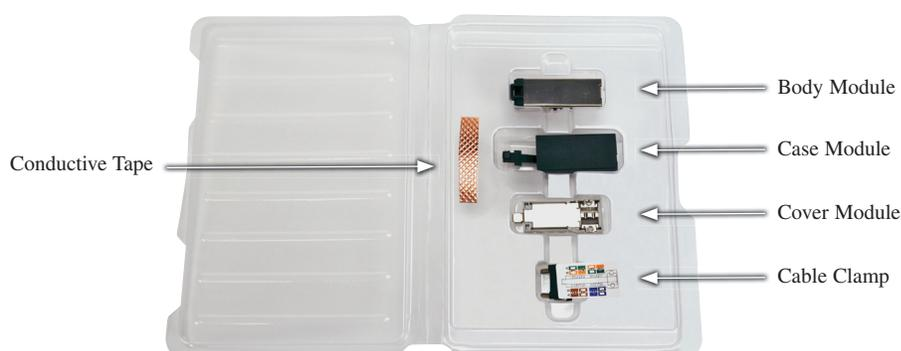

Figure 1
- Package components are outlined in Figure 1.